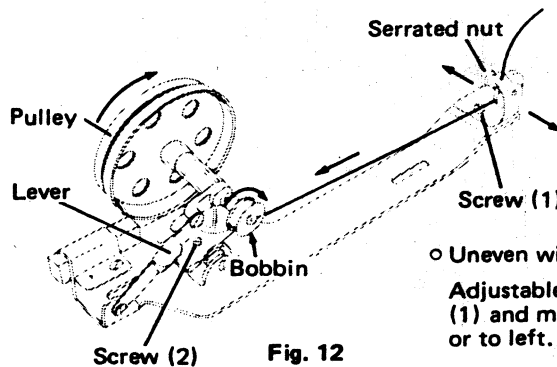

Fig. 12
2. Lead thread as shown by Fig. 12 and wind several times on bobbin.